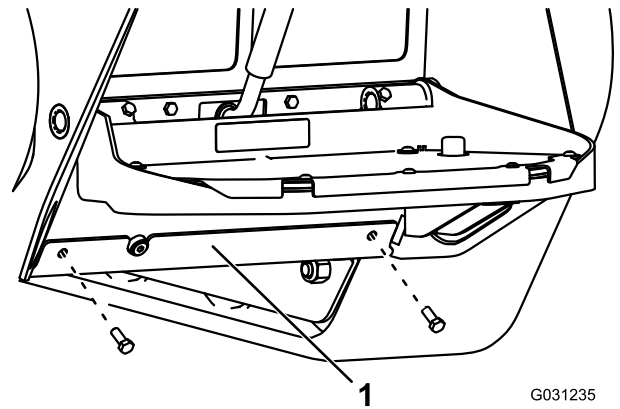

Figure 67
4. Remove the 2 bolts securing the bottom plate and remove the bottom plate (Figure 67).
8. Install the bottom plate (Figure 67).